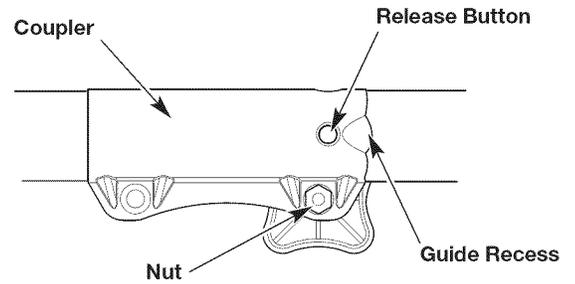

Fig. 4
**NOTE:** Aligning the release button with the guide recess will help installation (Fig. 4).
**NOTE:** Do not tighten the nut (Fig. 4).
2. Press and hold the release button (Fig. 4).